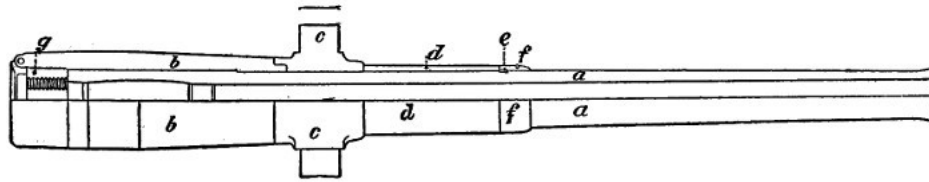

FIG. 38.
3.2-INCH B. L. RIFLE, MODEL 1885 (MODIFIED). (Fig. 38.)